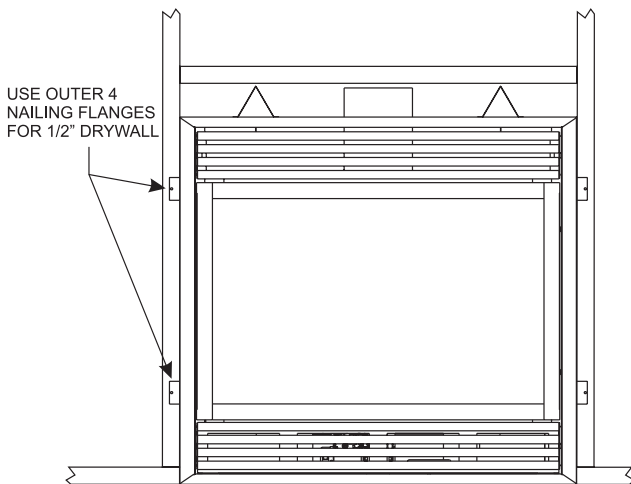

Figure 10A
3. Attach fireplace to frame using nailing flange. Preset depth to suit facing material (adjustable to 1/2", 5/8" or 3/4" depths). **NOTICE:** Fireplace must mount flush to facing material. If facing material requires more depth than 3/4", mark and drill two 1/8" holes into fireplace side at appropriate depth. Bend standoff tabs as needed to move fireplace flush with facing material. **See Figure 10A.**